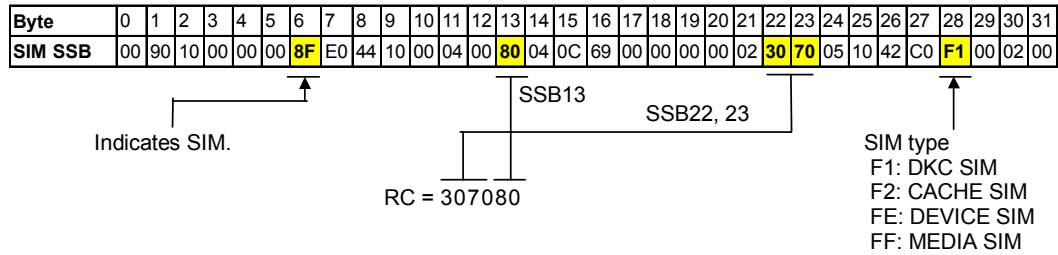

Figure 9-3 Typical SIM Showing Reference Code and SIM Type
Figure 9-3 shows a typical 32-byte SIM from the Hitachi USP V storage system. The six-digit reference code (RC) consists of bytes 22, 23, and 13. The RC identifies the possible error and determines the severity. The SIM type (byte 28) indicates the component which experienced the error. When the value of byte 22 is 21, the SIM is a control unit SIM. When the value of byte 22 is Dx (where x is an arbitrary character), the SIM is a device SIM.